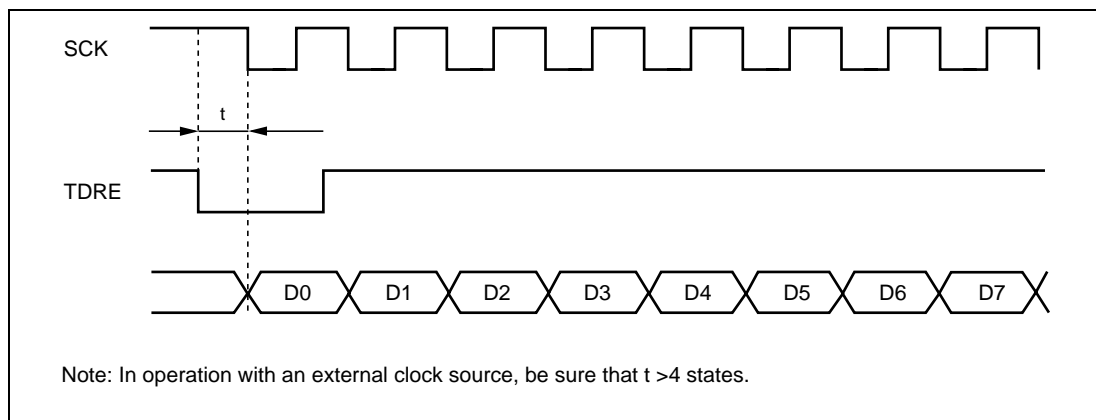

Figure 13.22 Example of Synchronous Transmission Using DMAC
- When an external clock source is used for the serial clock, after the DMAC updates TDR, allow an inversion of at least five system clock (ϕ) cycles before input of the serial clock to start transmitting. If the serial clock is input within four states of the TDR update, a malfunction may occur (see figure 13.22) .